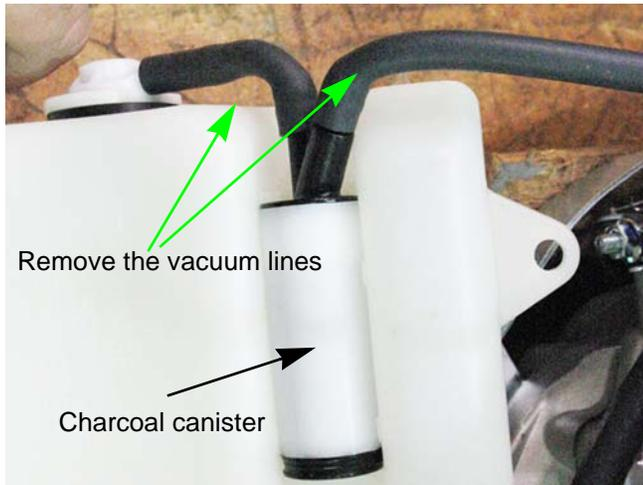

Figure 4.26
2. Remove the vacuum line that runs from the roll over valve to the charcoal canister. See Figure 4.26.